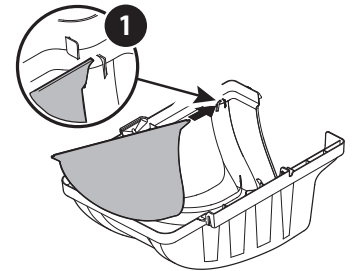

Figure 12
3. If not already done so by the factory, install the bagger screen (731-06504) into the bagger cover (631-04292) by first inserting the end closest to the side with the cutout (1) into the mounting hole, as in Figure 12.